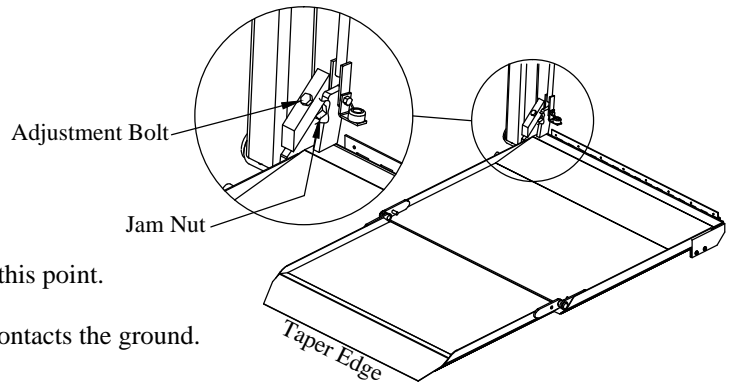

Figure 22: Unfolded 650 platform.
2. **Loosen** the jam nut (Figure 22).